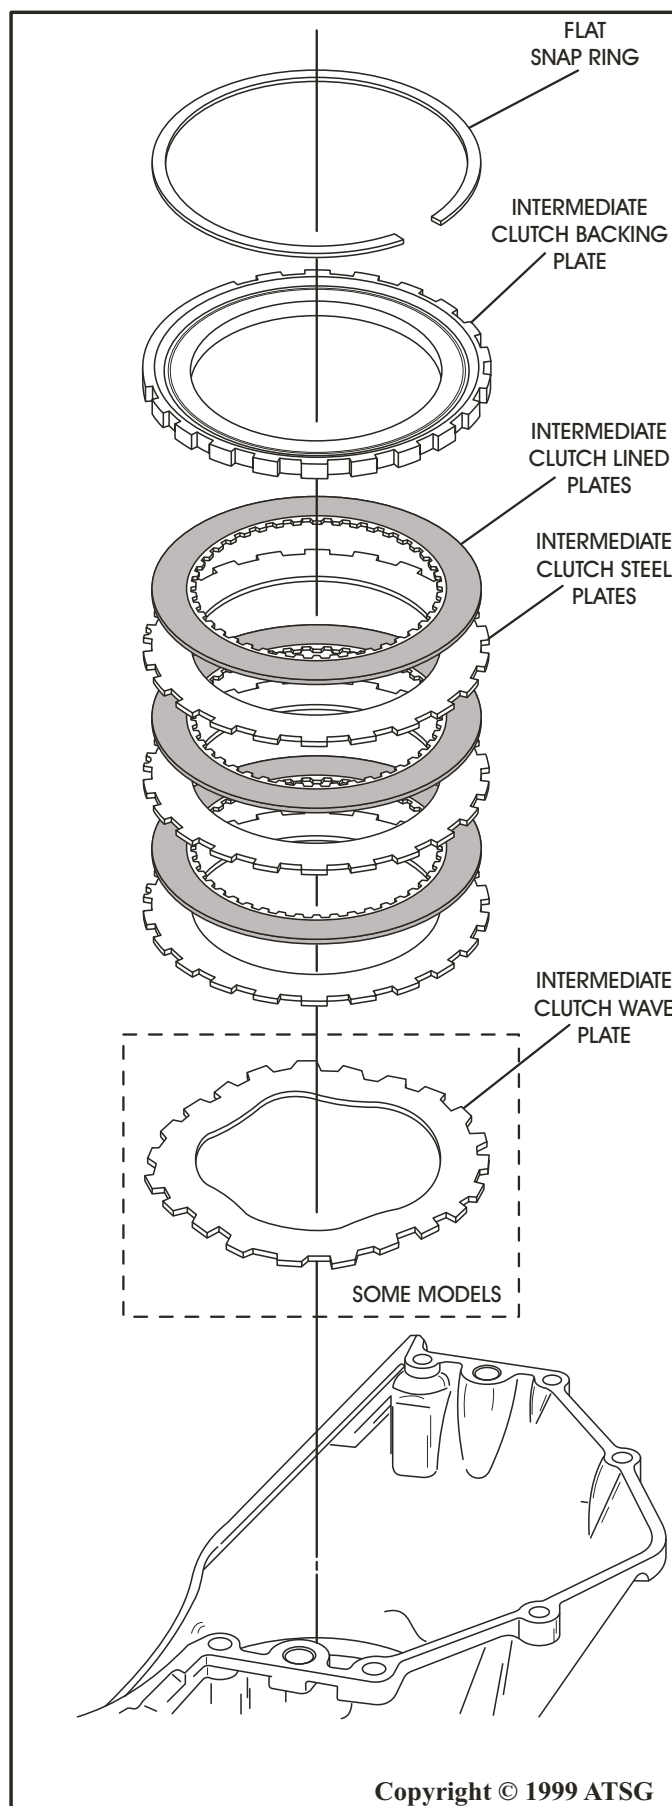

Figure 109
10. Install the intermediate clutch wave plate, if it is used in your model (See Figure 109).
11. Install the intermediate clutches beginning with a steel plate and alternating with a lined plate, until you have three of each installed, as shown in Figure 109.
12. Install the intermediate clutch backing plate on top of the last friction plate, ensuring that it is fully seated, as shown in Figure 109.